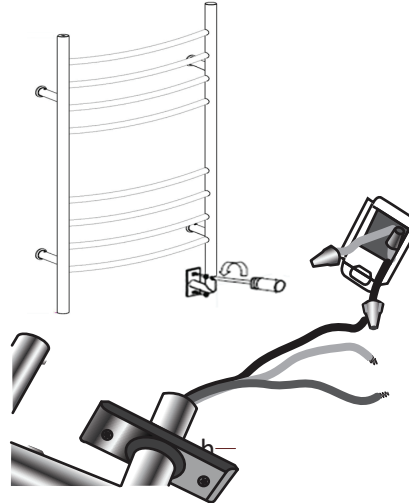

Fig. 5
Step 5: Installing hard wire leg (Fig. 5)